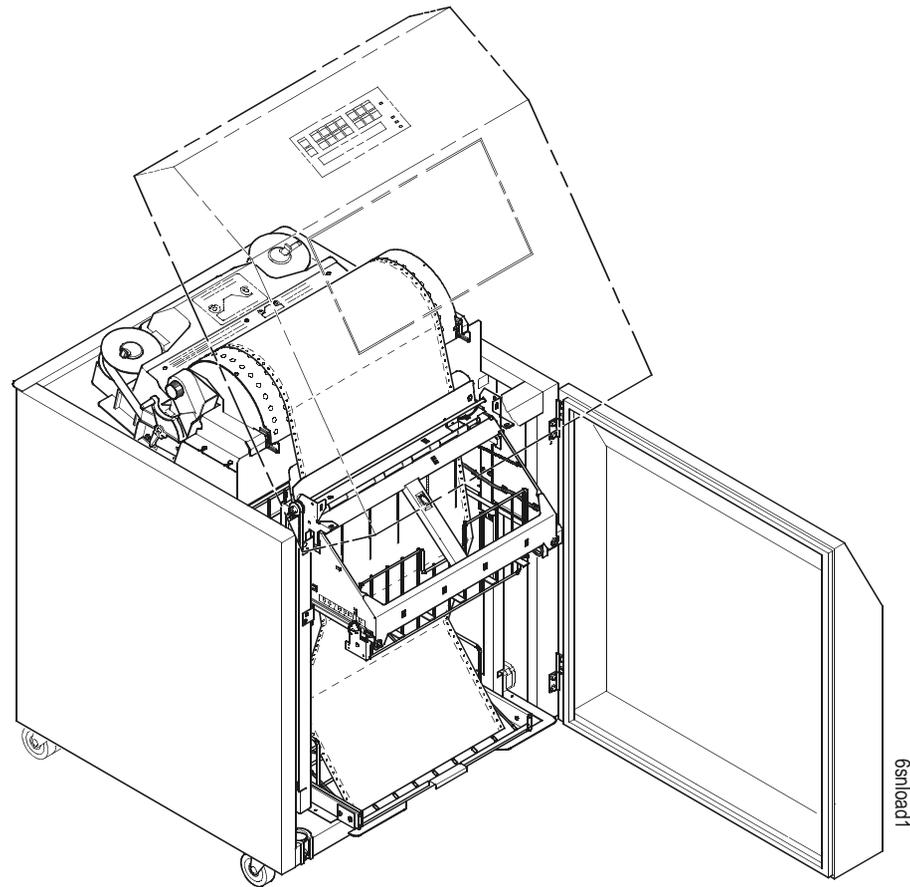

Figure 75. Paper Path in the Power Stacker
1. Press the **PAPER ADVANCE** key on the the stacker control panel and hand feed the paper down into the paper throat. Continue to advance the paper until it reaches the wire tent and there are 3 to 5 extra sheets in the stacker. Make sure the paper passes through the throat of the paper stacker. (Figure 75.)